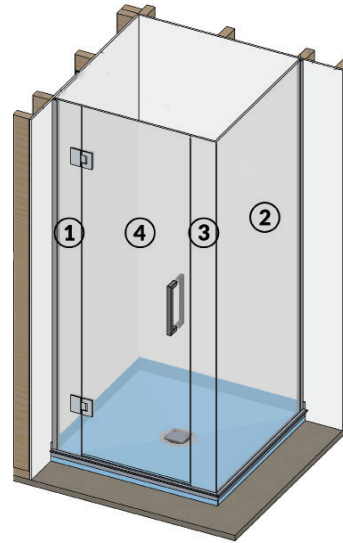

FIG 7.
- When panels are correctly aligned, remove Panel 1 (**FIG 7**), and run a thick continuous line of silicone down the inside of the wall channel (**FIG 8**) and apply liberally in the wall to floor channel join and along the floor channel to the length of the glass panel.
- Repeat steps 7 and 8 with panel 2. (FIG 7)